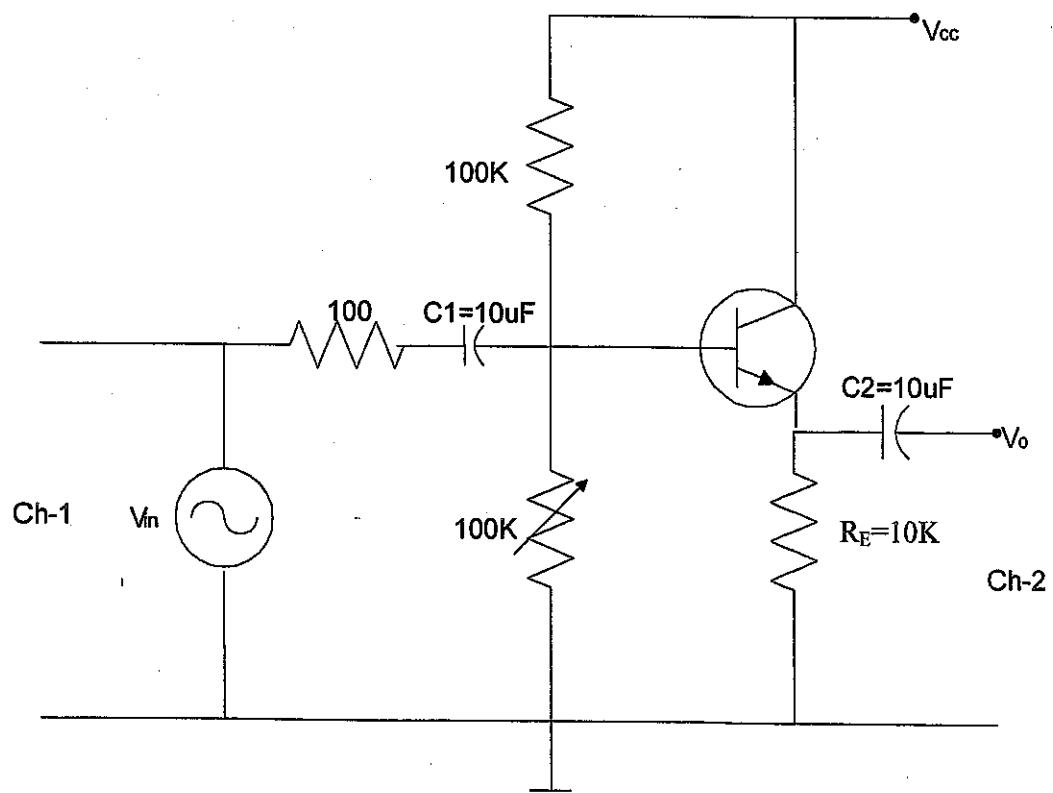

Fig. 1
1. Construct the circuit as shown in Fig. 1. Adjust 100K potentiometer to fix the Q point at the middle of the output characteristics.